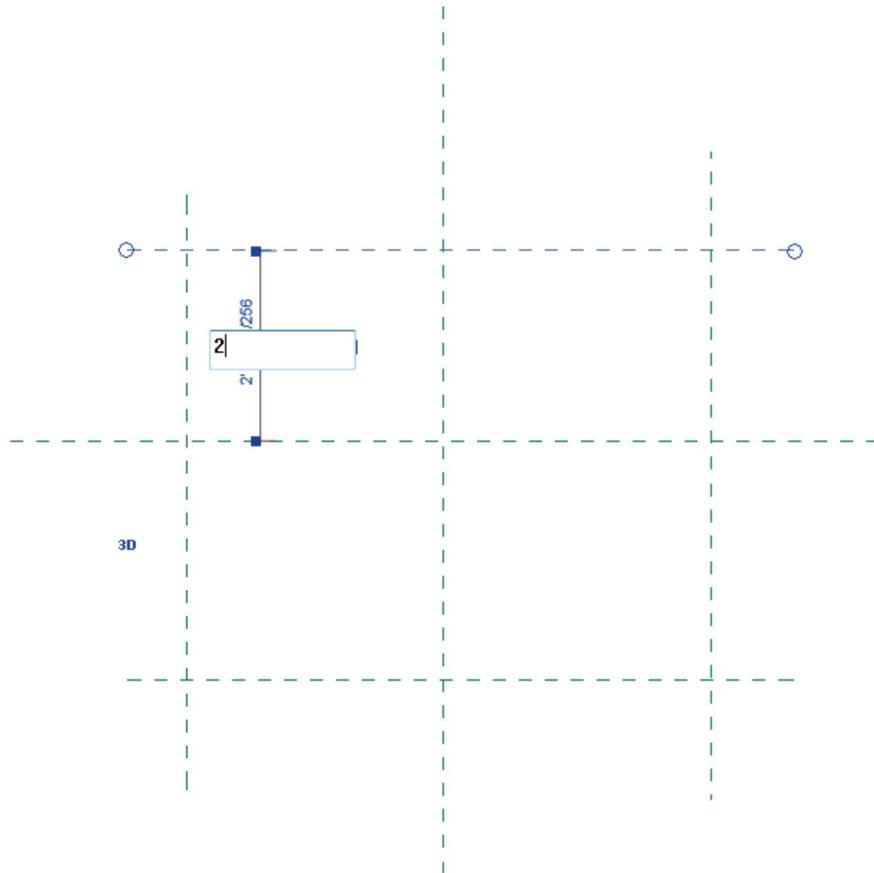

FIGURE 17-2.7 Top “horizontal” reference plane selected
10. Select the top horizontal *Reference Plane* (Figure 17-2.7).
11. Edit the *Temporary Dimension* to be **2'-0"** (Figure 17-2.7).